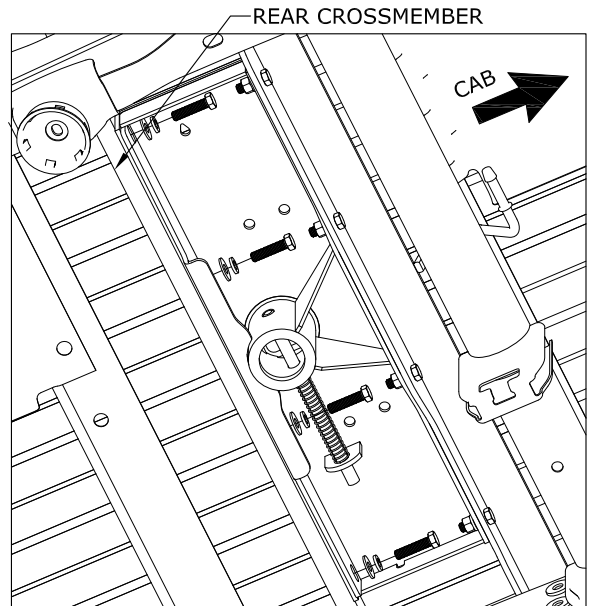

FIGURE B11: View under the center section looking from in front of the axle on the passenger side.
- 6. Attach the rear cross member to the center.** Slide the rear cross member up against the center section. Line up the slots in the center with the threaded holes in the cross member. Attach the two members using  $\frac{1}{2}$  x 2" long bolts, flat washers, and lock washers as shown in figure B11. Hand tighten bolts.